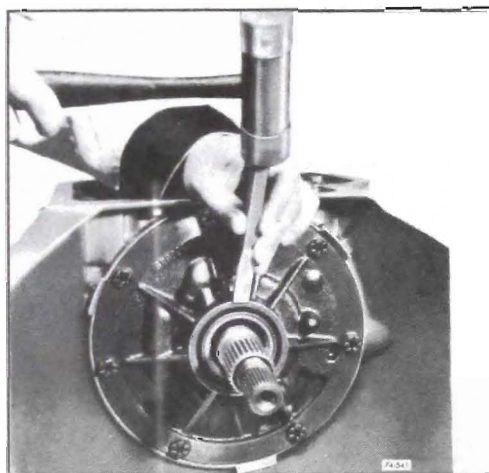

Figure 76-541
1. If seal replacement is necessary, pry seal from pump. See Figure 76-541.